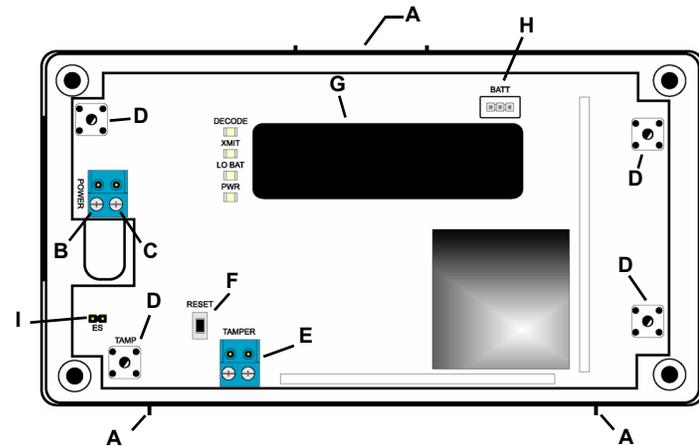

Figure 1 EE5000 Components
1. Use a small screwdriver to press the housing release tab on the top or bottom of the high-power repeater (Fig. 1); separate the housing.
2. Connect power cabling to the Vs and GND connections (Fig. 1).